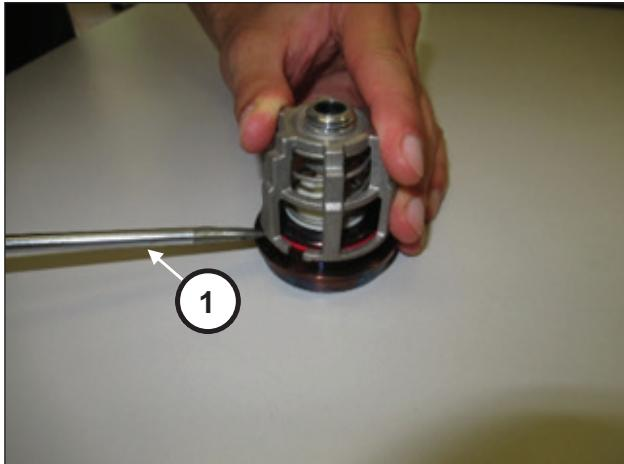

Fig. 106
Disassemble the suction and outlet valve units by levering with simple tools (pos. ①, Fig. 106).